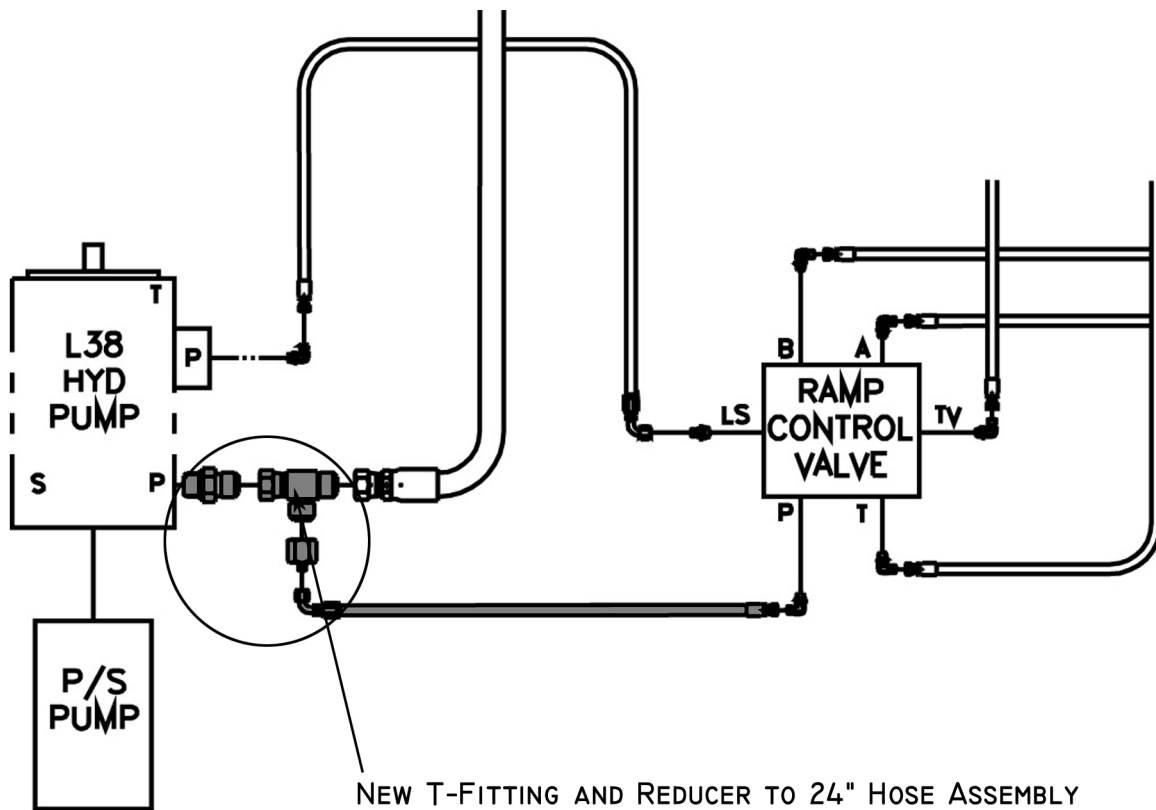

FIGURE 1-2 NEW HYDRAULIC FITTING CONFIGURATION
- b. If the hydraulic fitting and hose assembly resembles the configuration in Figure 1-2, no further action needs to be taken. Close the rear engine compartment and return the bus to revenue service.
4. Install the new straight connector (Orion P/N# BS-6139137) into the L38 hydraulic pump. (See Figure 1-2)
5. Install the adapter tee (Orion P/N BS-6010201), reducer (Orion P/N# BS-6139305), and 24" hose assembly (Orion P/N# 060906563) as shown in Figure 1-2.
6. Connect the hose assembly to the ramp control valve as shown in Figure 1-2.